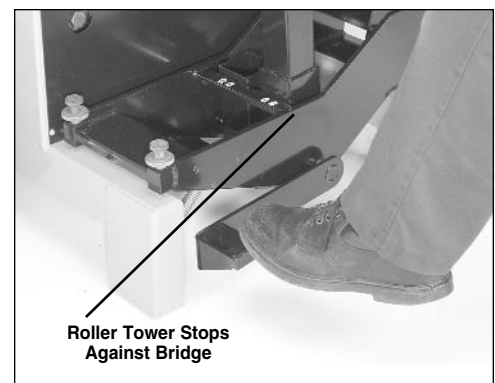

Figure 8
5. Lock the roller tower by pushing the handle lock down until the roller tower stops firmly against bridge. (See Figure 8.)